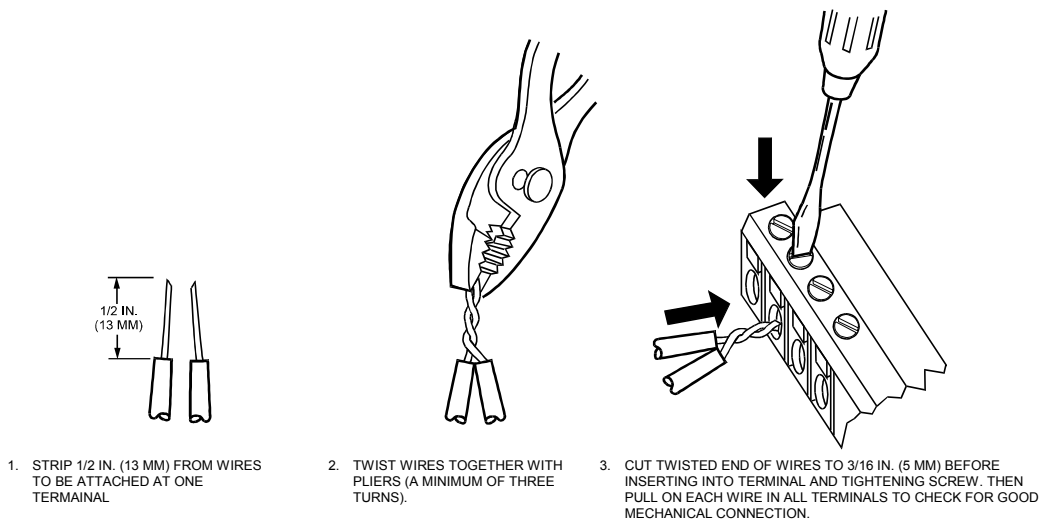

Fig. 7. Attaching two or more wires at terminal blocks.
*When two or more wires are to be attached to the same terminal, be sure to twist them together. Deviations from this rule can result in improper electrical contact. See Fig. 7. Local wiring codes may take precedence over this recommendation.*